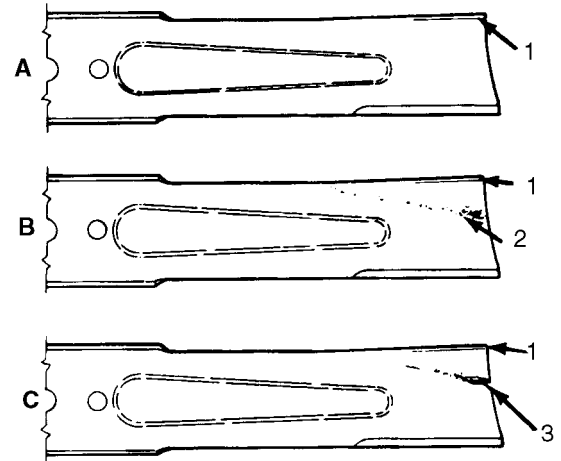

Figure 17
## INSPECTING AND SHARPENING THE BLADE (Fig 17–18)
2. Examine the cutting ends of the blade carefully, especially where the flat and curved parts of the blade meet (Fig. 17 A). Since sand and abrasive material can wear away the metal that connects the flat and curved parts of the blade, check the blade before using the machine. If wear is noticed (Fig. 17 B), replace the blade: refer to *Removing The Cutter Blade*.